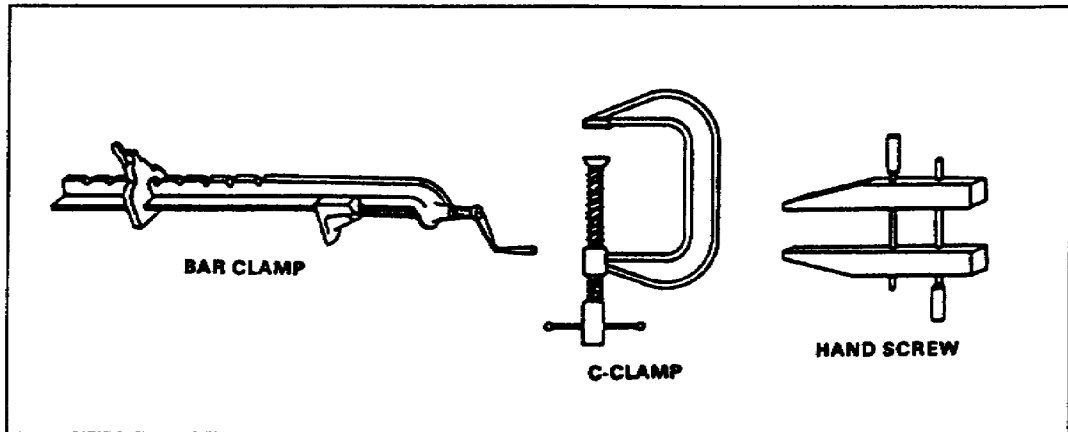

Figure 2-38. Clamps
b. Retaining Tools. Retaining tools consist of various types of clamps, which fall into the following general categories: C clamp, double-screw clamp, and bar clamp (Figure 2-38).